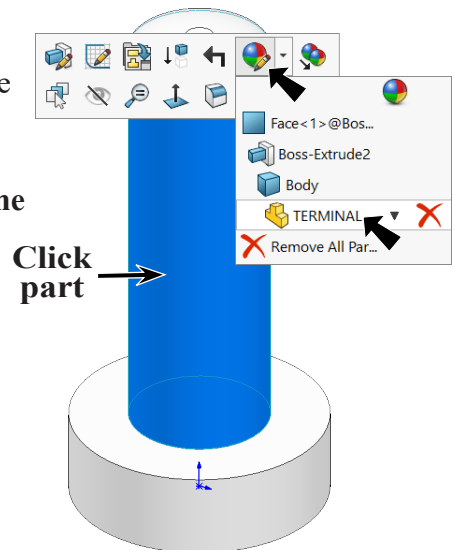

Fig. 12
Step 1. Click part to select, click **Appearance Callout**  on the Context toolbar and click **TERMINAL** , Fig. 12.